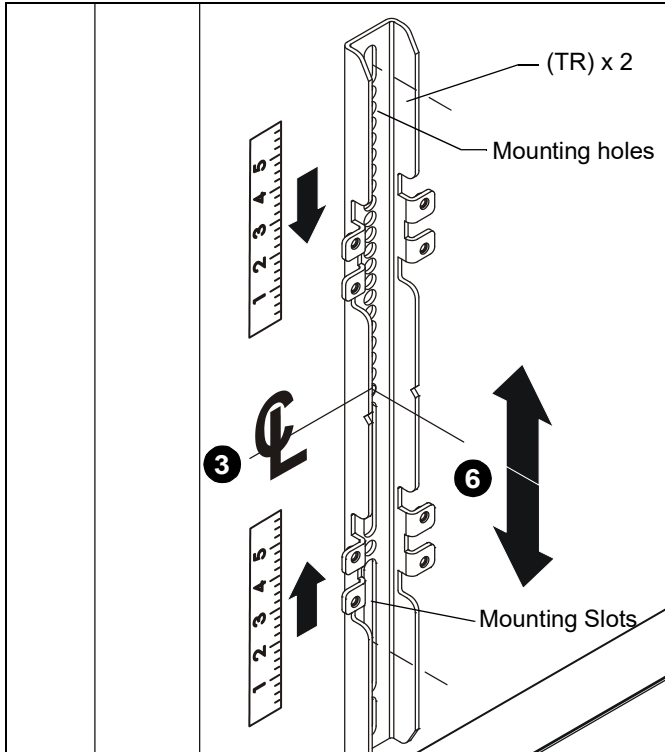
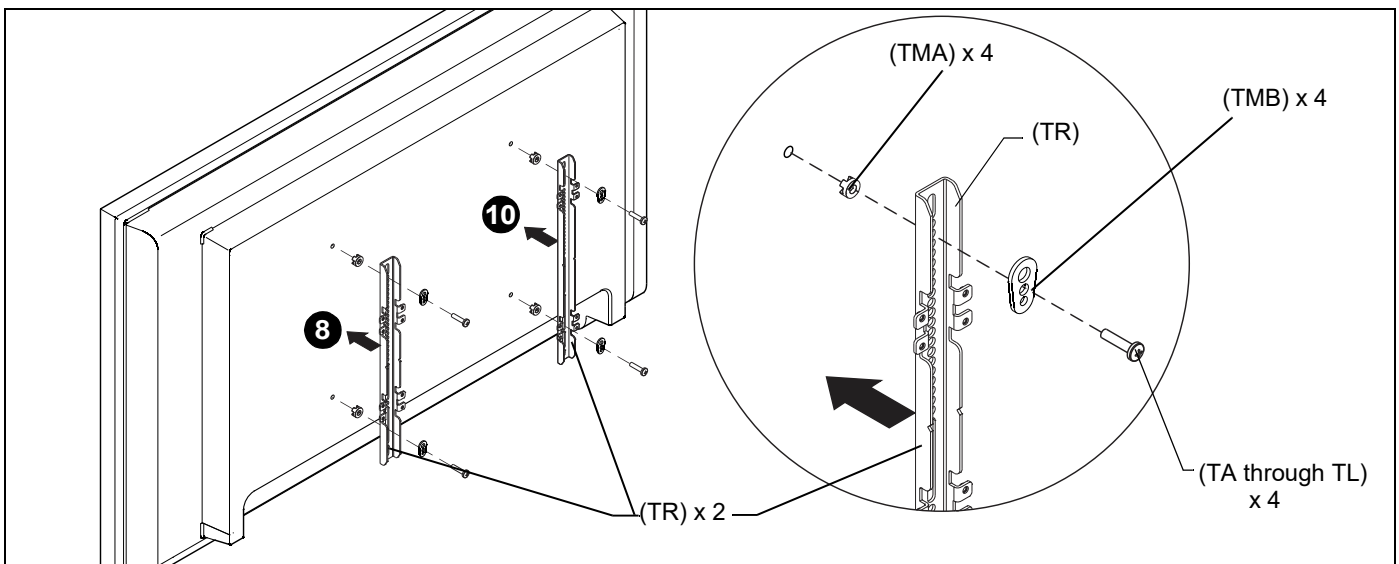

Figure 32
Figure 34
3. Determine and mark the vertical center position between the Left side Upper and Lower mounting holes in display. (See Figure 32)
4. Determine and mark the vertical center position between the Right side Upper and Lower mounting holes in display. (See Figure 32)
5. Orient vertical mounting bracket (TR) so that mounting holes are on top and mounting slots are on bottom. (See Figure 32)
6. Align mounting holes in vertical mounting bracket (TR) with upper and lower mounting holes in display.
7. Adjust vertical mounting bracket (TR) position until mark made in Step 1 aligns with center mark in vertical mounting bracket (TR)
8. Select correct screws, nesting spacers (if necessary) and universal washers (if required) from the hardware bag (TA-TM) and attach brackets to back of screen. (See Figure 34)
9. If the display has a recessed mounting surface, protrusions or a power box, a spacer and longer mounting hardware must be placed between the display and vertical mounting bracket (TR). (See Figure 34)